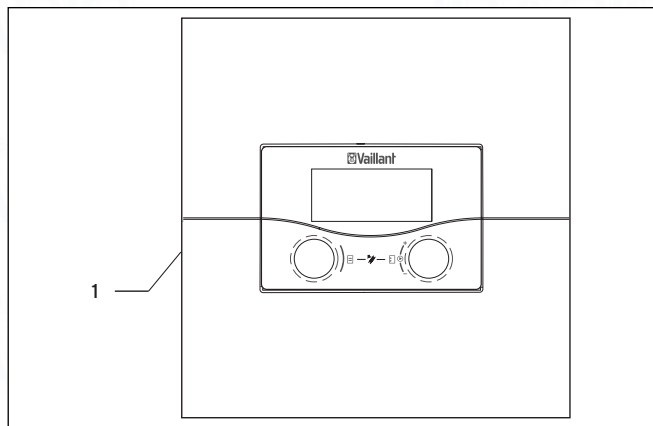

Fig. 10.1 Switching the controller on/off
- Press the rocker switch (1) to position **O** to switch the controller Off (→ **Fig. 10.1**).